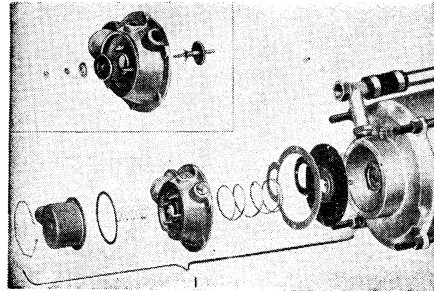

Fig. 66 Disassembly of vacu-
Fig. 66. Remove control valve cover and valve parts (1). Some Hydrovacs have a vacuum by-pass tube which must be removed before the valve housing can be taken off. The inset shows removal of control valve poppets.